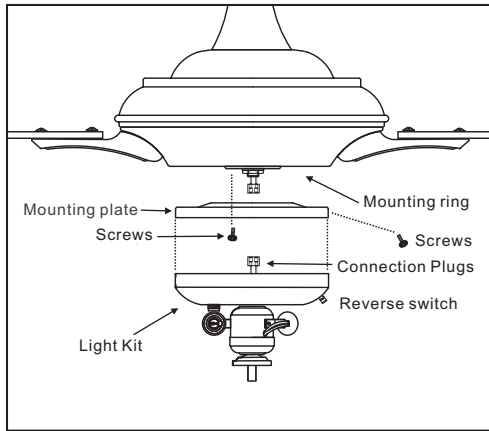

Figure 19
3. Place the key holes on the mounting plate over the 2 screws previously loosened from the mounting ring, turn mounting plate until it locks in place at the narrow section of the key holes. Secure by tightening the 2 screws previously loosened and the one previously removed. (Figure 19)
4. Connect the connectors from the light kit and fan. (Figure 19)